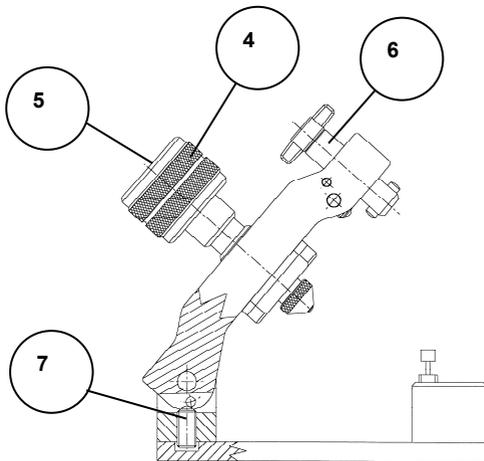

Fig 2: Side View of MKII Golden Gate Diamond ATR Top Plate (Bridge Open)
At the hinge point of the Golden Gate clamp there is a spring ball bearing device (7) that prevents an open bridge from accidentally falling back down to its closed position on the bridge support (8). When sampling liquids there is no need to use the bridge as the sample will be in intimate contact with the crystal. This device allows the bridge to stay open for convenience when sampling liquids (see Fig 2).